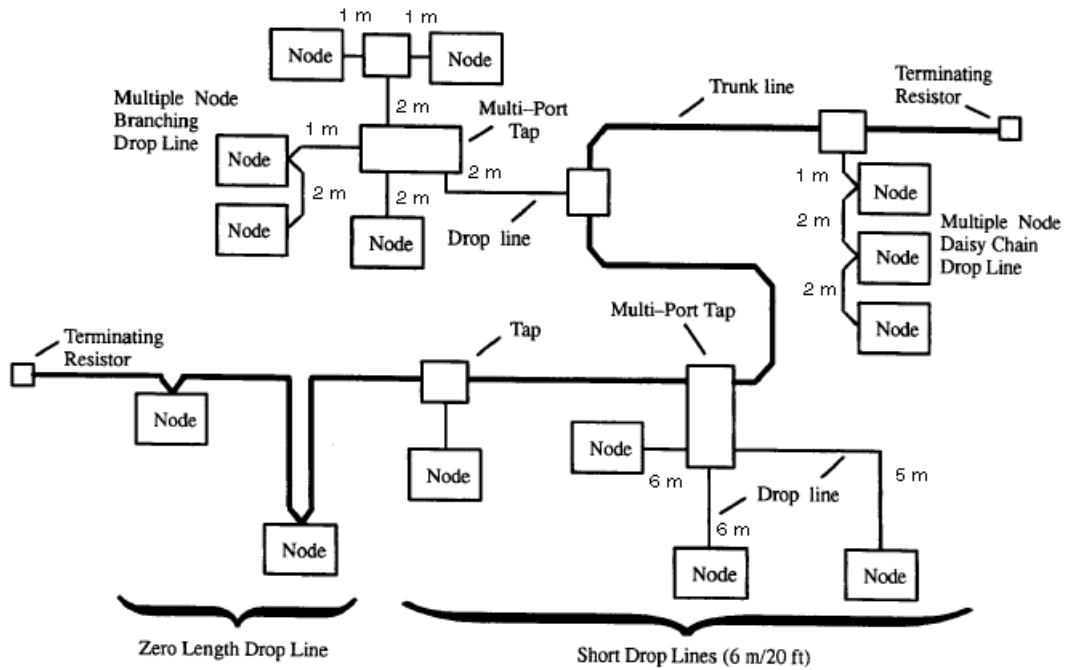

Figure 20. DeviceNet Media Technology with Network Length
1. The distance between any two points must not exceed the maximum cable length allowed for the baud rate. Always use the longest distance between two nodes in the network. For the cable length, refer to Figure 20.
3. Cumulative cable length: An example of cumulative length shown in Figure 20 is 40 m. None of the node has a drop line length of more than 6 m. This feature enables to use a data rate of 250 kb.